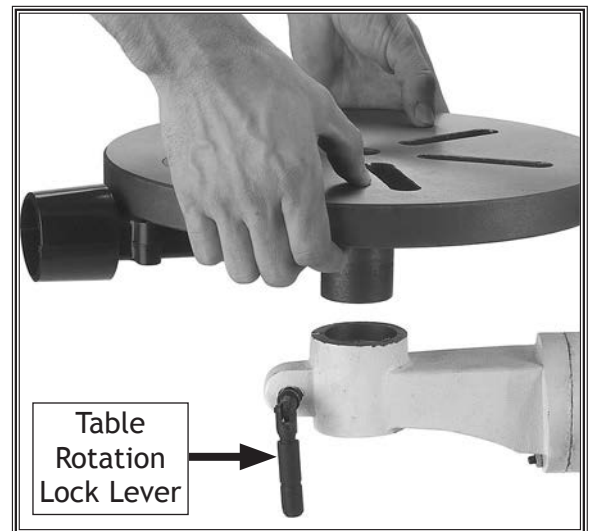

Figure 20. Table installation.
15. Align the shaft under the table with the hole on the end of the table support bracket and install (see **Figure 20**).
16. Tighten the table rotation lock lever (see **Figure 20**).